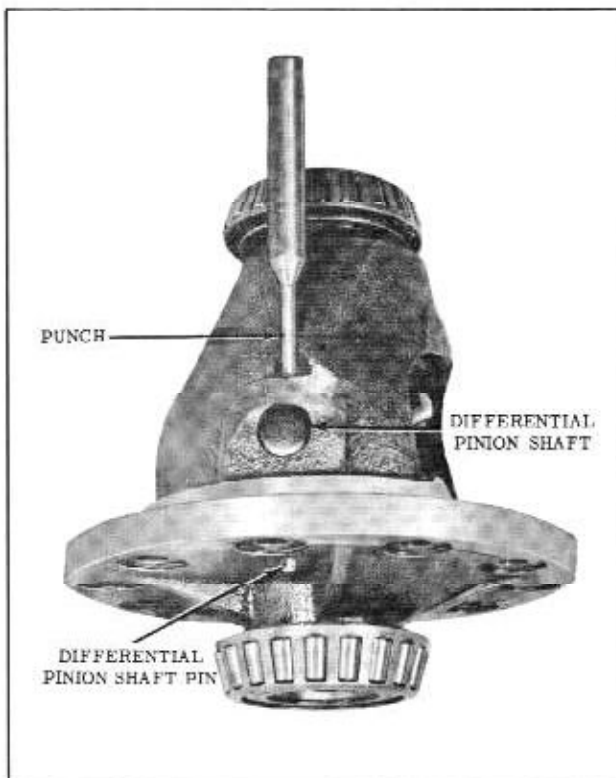

Figure 6-12 Removing Shaft Pin
2. Drive pinion shaft spring pin from case. (Fig. 6-12)